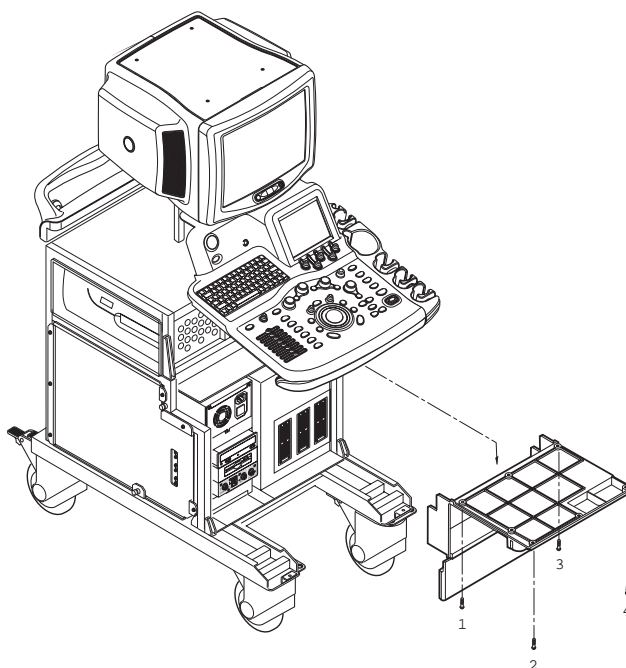

Figure 8-91 Removing the OP Bottom Cover
- 7.) Unscrew four (4) screws (1-4). Refer to Figure 8-91 on page 8-45 .